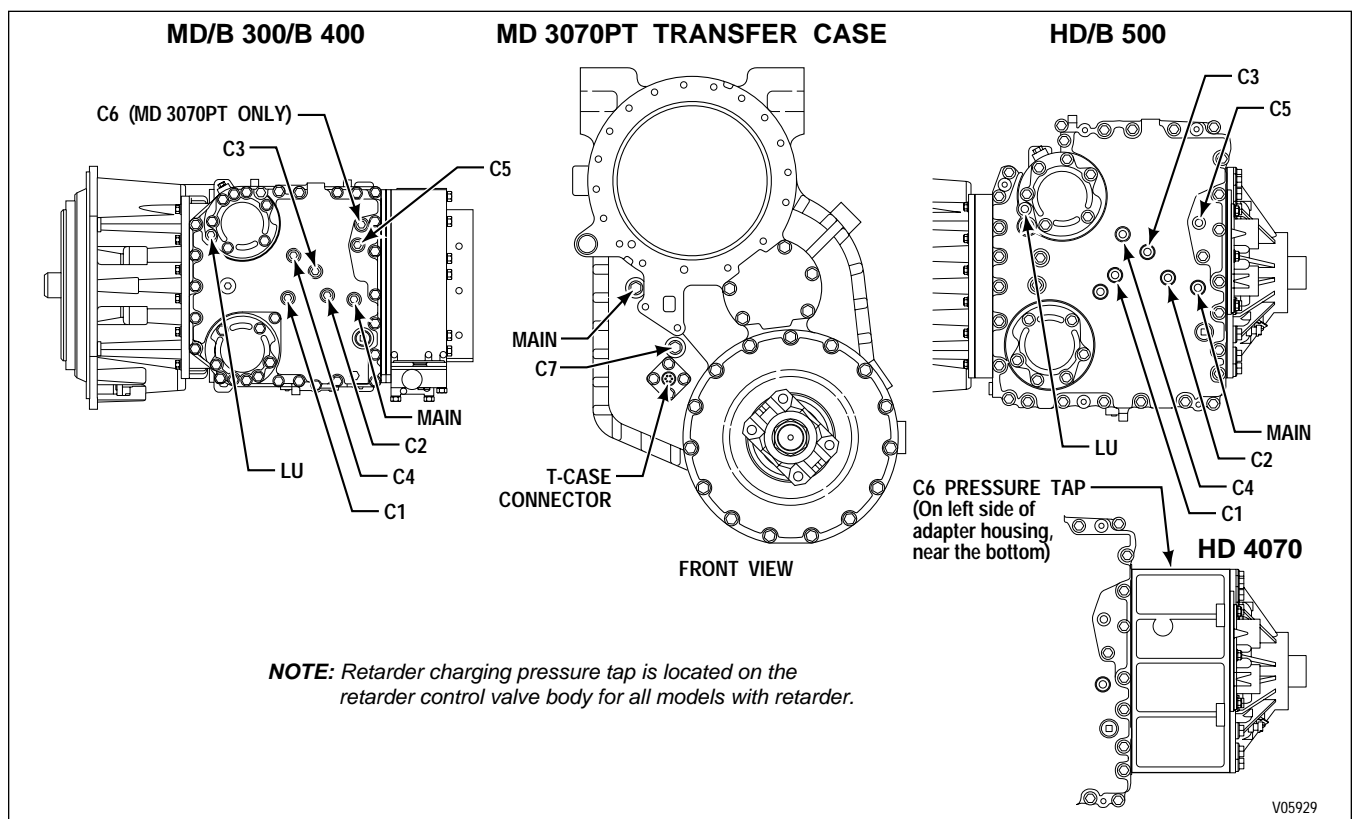

Figure B-1. Clutch Pressure Check Points
1. Remove the plugs from the pressure tap locations where measurement is desired (refer to Figure B-1).